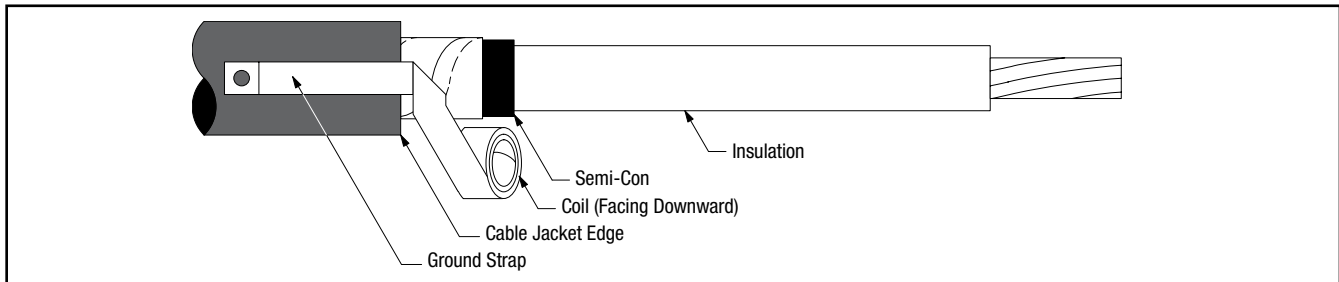

Figure 2
3.2 Lay ground strap along cable with the extended coil facing downward (away from you) (*Figure 2*).